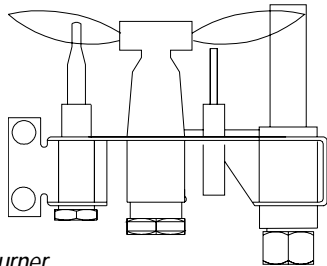

Figure 14. Pilot Burner
2. Adjust pilot screw to provide properly sized flame as shown in figure 14).